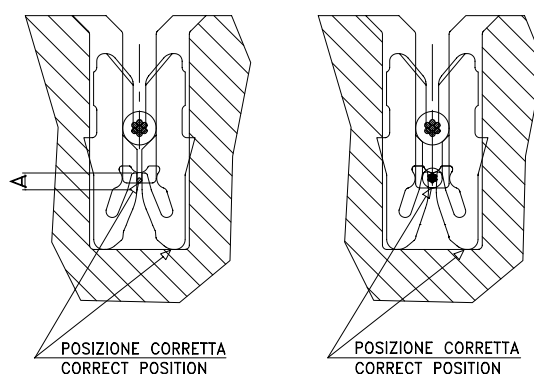

Fig. 14
- Check that the enameled wires or cables (when connected on the inferior part of "INAR-RS" terminal) are placed on the straight section of the terminal tips (see quote "A") at the end of the application guaranting thus the contact (see figure 14).